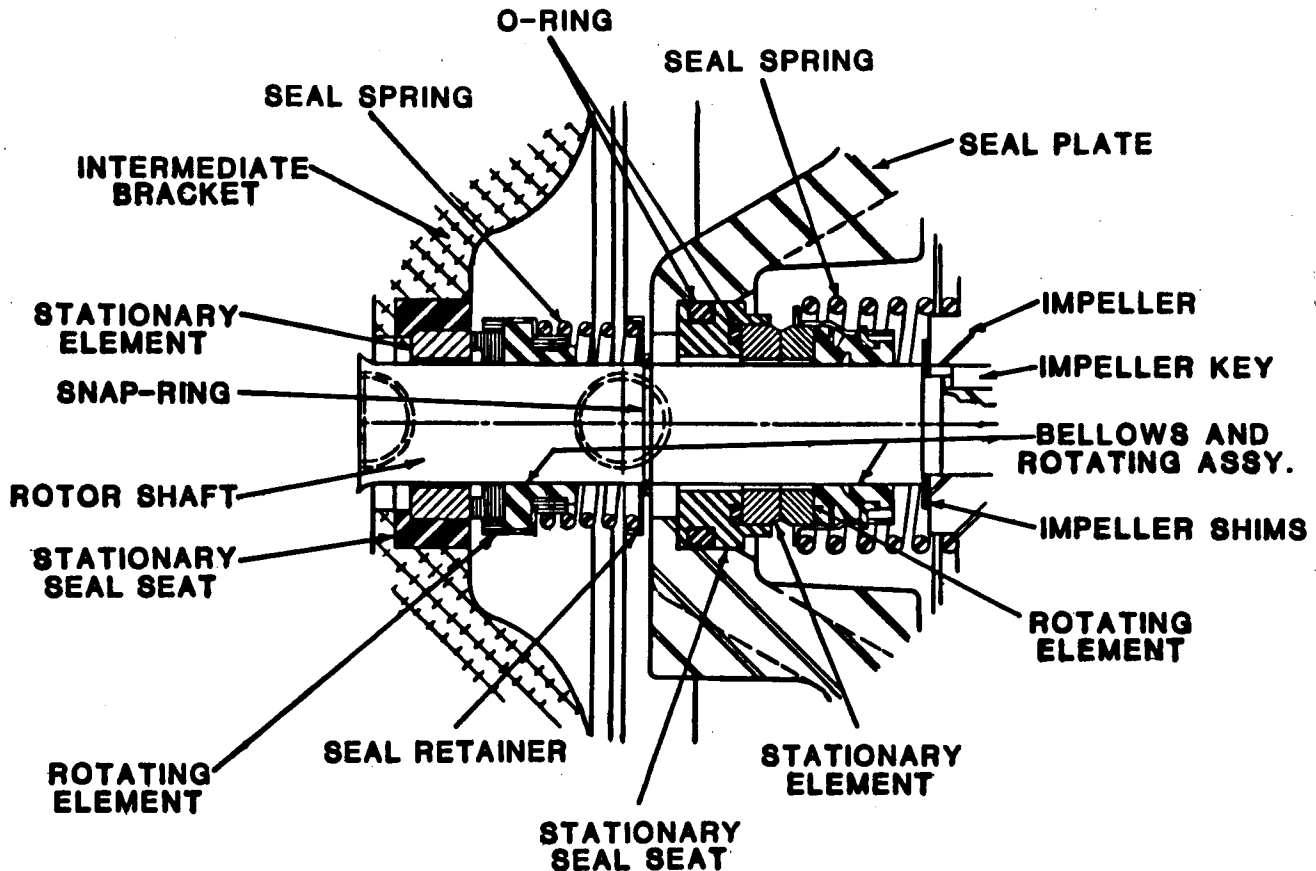

Figure 3. Seal Assemblies 46512-069 and 25271-824
Install the shaft seals as illustrated in Figure 3.
Slide the seal spring over the shaft and bellows retainer, and install the spring retainer. Compress the spring and install the seal retaining ring (66). See Figure 3 for proper order of seal assembly.
Unpack the stationary seat, and check that the O-rings are properly installed (see Figure 3). Apply a light coating of oil to the outer O-ring. Press the stationary seat into the seal bore until it bottoms squarely.